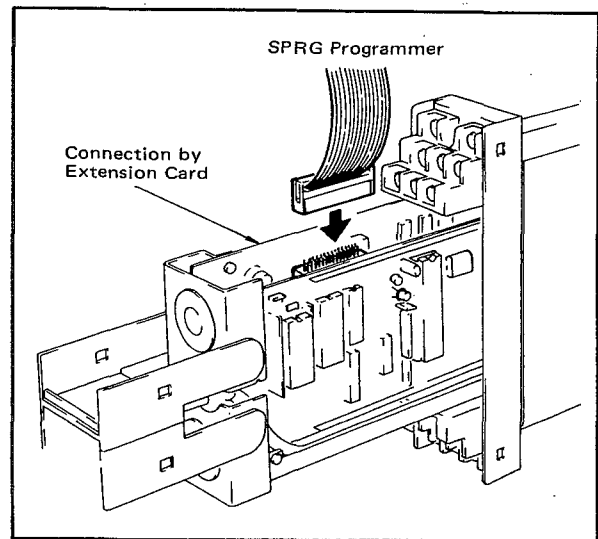

Figure 3-2-2. Connection to SPLR.
- (1) When the SPLR module is removed from its housing, a connector socket appears (see Figure 3-2-2).
- (2) Insert the SPRG programmer connector so that the triangle mark (▲) coincides with that on the corresponding SPLR socket.
- (3) Use an extension card to connect the SPLR module to the connector in the housing.